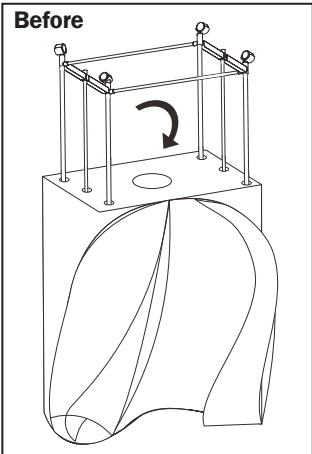

Fig. 10
9. Once you have attached the Bottom Module, turn the frame back upright so that the castor wheels are on the floor (Figs. 10 & 11).